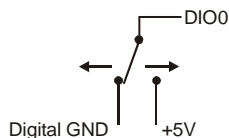

Figure 10. Schematic showing switch detection by digital channel DIO0
When configuring the digital bits for input, the digital I/O terminals can detect the state of a TTL-compatible device. The ground (**GND**) terminal (pin 48) provides a common ground for the digital I/O channels. Refer to the schematic shown in Figure 10. If the switch is set to the +5V input, DIO0 reads *TRUE* (1). If the switch is moved to GND, DIO0 reads *FALSE* (0).